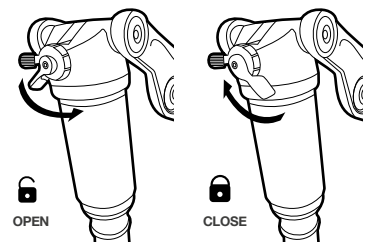

Figure 21. Open position (left) and closed (right) of the shock
2. If the padlock is open, it means that your shock is in open position (*Figure 21*).
3. If the padlock is closed, it means that your shock is locked out (*Figure 21*)
4. To move from one position to the other, you simply need to move the blue lever with your index finger in the direction indicated by the arrows in *Figure 21*.